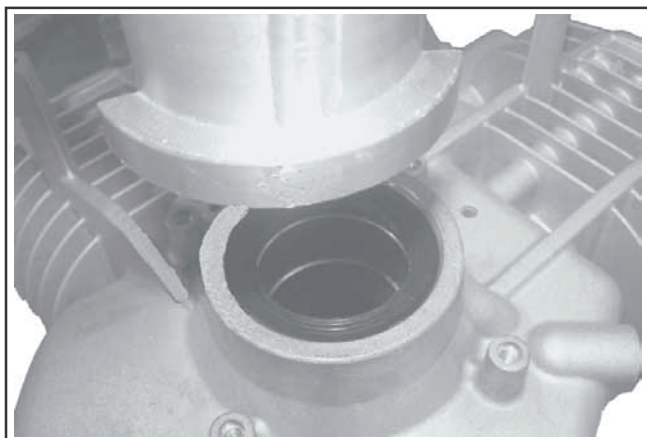

Figure 10-2. Installing Oil Seal with Driver.
3. Install the oil seal into the crankcase using a seal driver. Make sure the oil seal is installed straight and true in the bore and that the tool bottoms against the crankcase. See Figures 10-2 and 10-3.